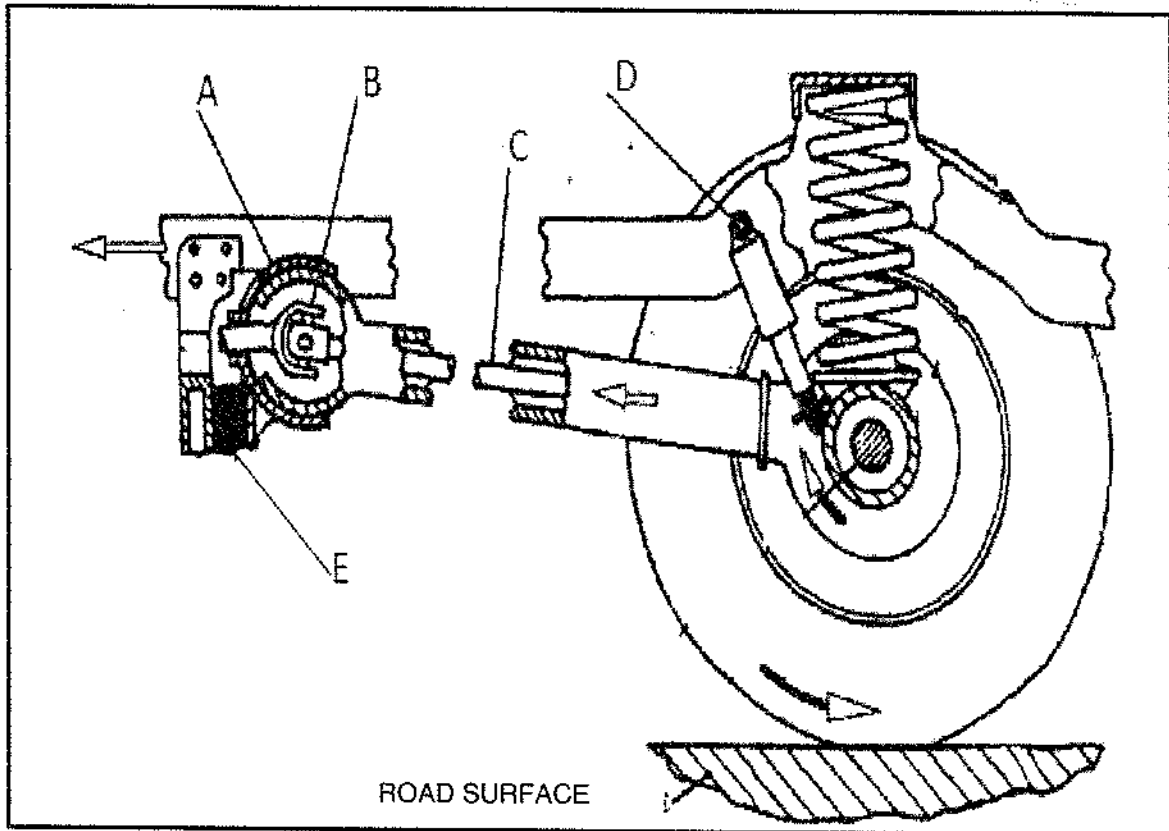

FIGURE 2
FIGURE 2 shows a SPRING-BLADE SYSTEM.
- 2.2 Name the rear-wheel drive system shown in FIGURE 2. (1)